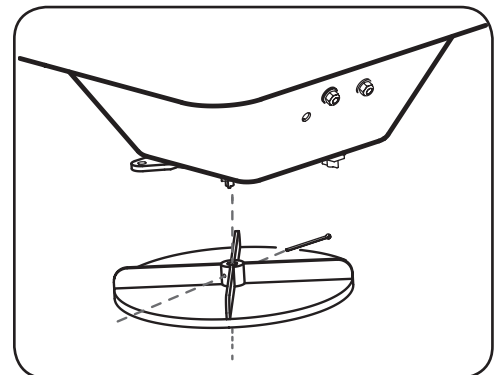

Figure 2-7
4. Secure the spinner disc to the motor shaft with a cotter pin. See Figure 2-7.